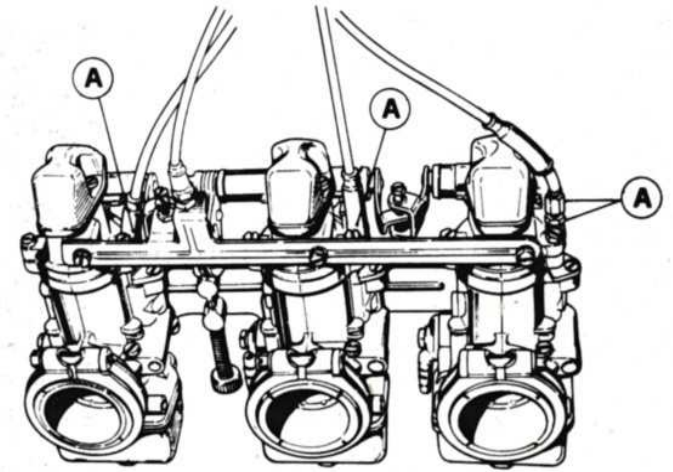

Fig. 76
Make certain that the three starting device cables have approx. 3 mm. (1/8 inch) free travel (when the operating lever is at rest). Each carburetor is provided with an adjuster. (A) Fig. 76